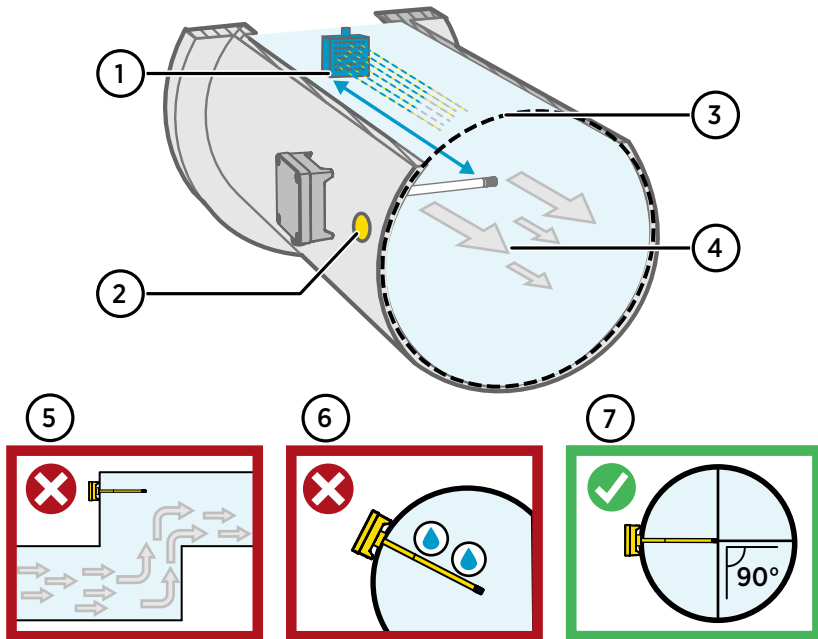

Figure 9 Duct Installation Overview
4. Optional: Drill a second hole for reference measurements approximately 30 cm (12 in) from the transmitter installation hole. See Figure 9 \(page 15\).
- ▶ 1. Insert the reference transmitter into the measurement environment next to the transmitter that you are adjusting. The reference transmitter should be inserted approximately 30 cm (12 in) from the HMD60 probe's installation hole, towards the direction of the air flow. See Figure 9 \(page 15\).